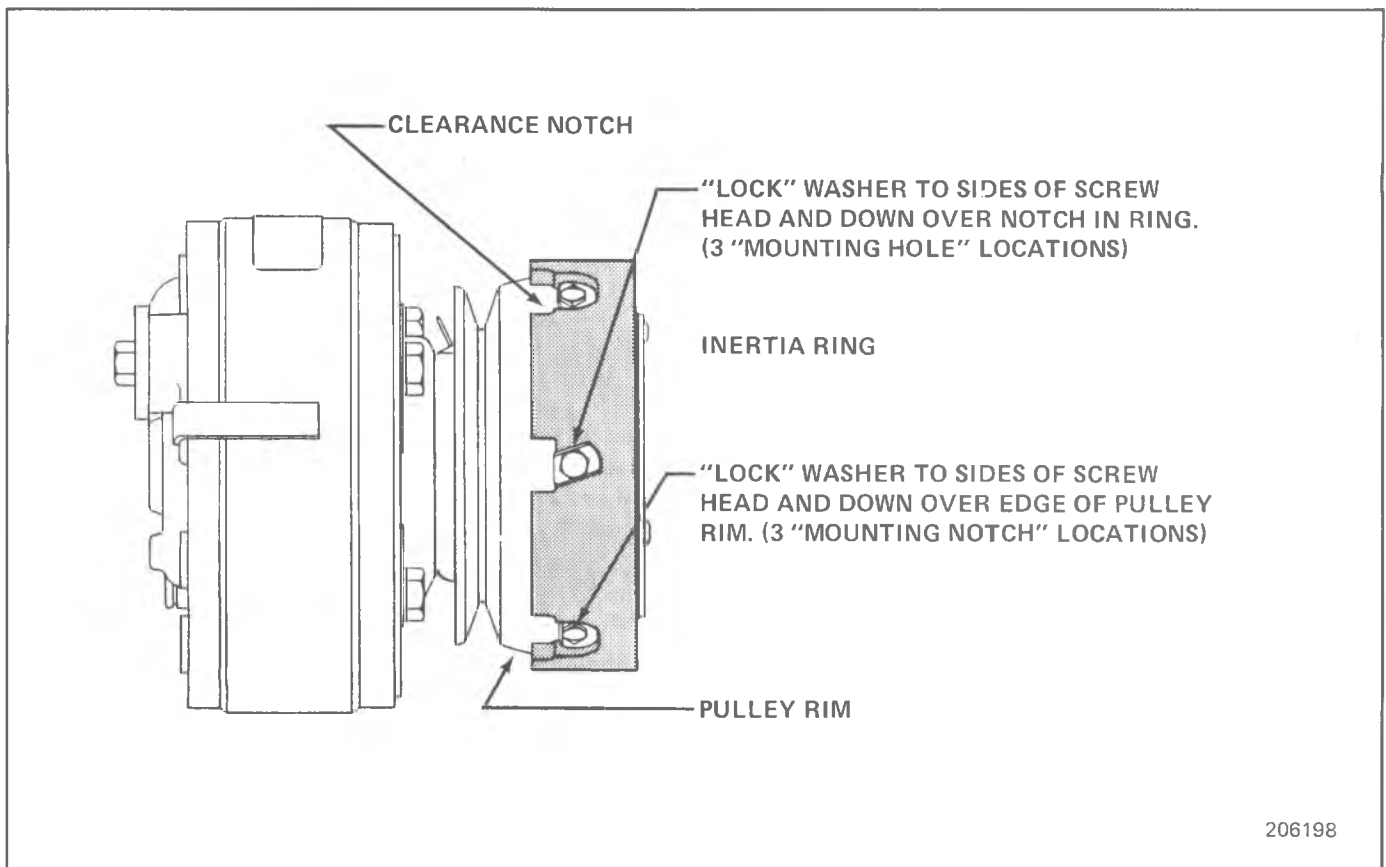

Fig. 1D-87 R-4 Pulley Rim and Inertia Ring Mounting Detail
16. When all screws are torqued in place, lock all mounting screws in position by flattening the special washer against two opposite sides of the hex head screw, using vise-grip pliers. Form a portion of the lock washer down over the pulley rim or over the Inertia Ring slot to secure the screws in place. Do not move the screw heads from the torqued position. See Fig. 1D-87.
When replacing the shaft seal assembly (see Fig. 1D-17) or pressure relief valve (see Fig. 1D-69) even if the compressor remains on the vehicle during the operation, it will be necessary to purge the system of refrigerant (see Section 1B). Other than clutch repair procedures, the same holds true for any disassembly of the compressor.